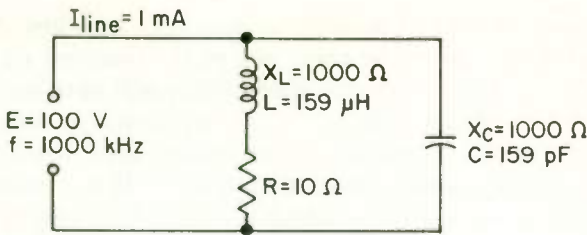

Fig. 34 L and R in parallel with C .
POWER IN LCR CIRCUITS. . . In calculating power in LCR circuits, whether at resonance or otherwise, keep in mind that only resistances use power. If the voltage across a capacitor or an inductor is 20 V and current through the unit is 3 A, the power used is 0 W, assuming perfect inductors and capacitors. Since all coils have some resistance, any practical inductor will use some power. However, a practical inductor is represented in schematic diagrams by a perfect inductor with a resistor connected in series to represent the resistance of the inductor. In Fig. 34, for example, the $10\ \Omega$ of R is the resistance of the coil. All the power used is dissipated in R . Since R is in fact part of the coil, the power would actually be dissipated within the coil. To find the power drawn by the parallel resonant circuit of Fig. 34, you can use the formula $P = E \times I \times pf$. Since this circuit is at resonance, the power factor is 1, so that $P = 100 \times 0.001 \times 1 = 0.1\ \text{W}$. Since the only resistance in the circuit is R , the entire 0.1 W is dissipated in R .
1. Use the formula $P = I^2R$ to show that the power dissipated in R of Fig. 34 is 0.1 W.